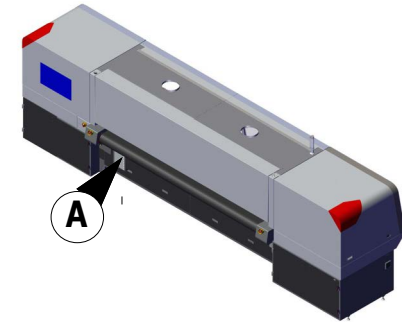

Figure 6-16 Printer Rear View
1. Lift up and remove the sheet metal cover containing the electronics compartment air inlet, Figure 6-16 location (A).